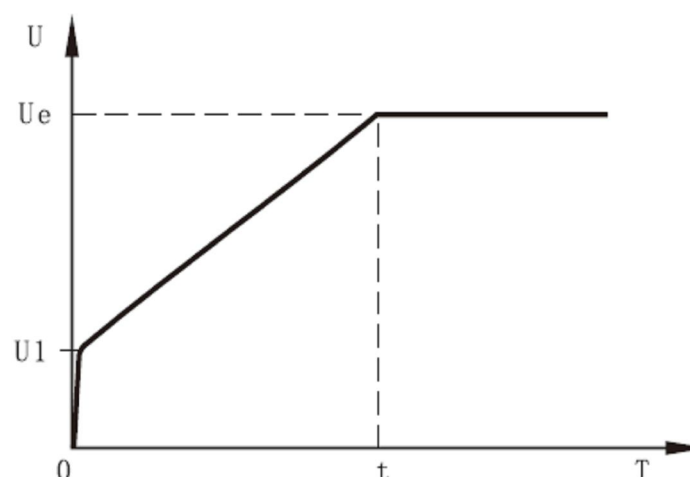

Figure 12-2-1
- a) The soft starter will be under voltage starting mode when code F9 is set to 1 (voltage). Figure 12-2-1 shows the output voltage wave of the output ramp starting.  $U_1$  is the starting voltage value at start, when the motor starts, if the current of the motor is within the range of the rated value 400%, the output voltage of the soft starter will increase to  $U_1$  rapidly, then the starting parameter set according to the output voltage will rise gradually, and the motor will accelerate smoothly with the rising of the voltage and reach the rated rotation speed when the voltage reaches the rated voltage  $U_e$ , then the inbuilt bypass contactor will close and the whole starting process completes.